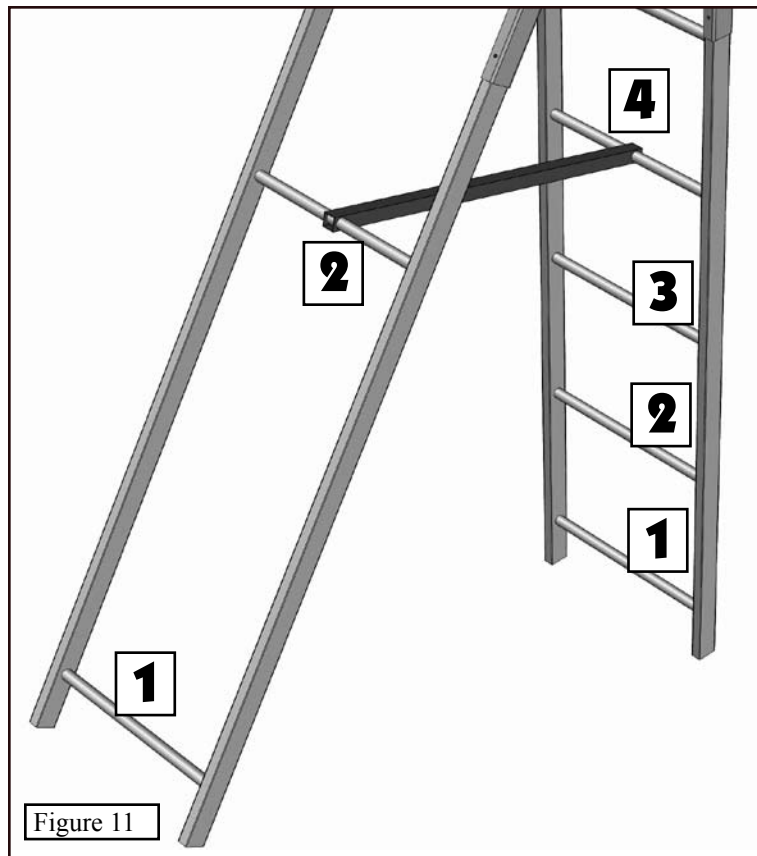

Figure 11
Step 1. The Support Brace connects the two sections together whenever it is standing. The brace runs from the 4th step from the bottom on the Step Assembly to the 2nd rung from the bottom on the Support Assembly as shown in **Figure 11**. This step is easier if it is done with the stand laying down.
Step 1. If you have transported the X-Pod with the support brace attached to one side, you **MUST** attach it to the other side before using it. Reconnect the brace as shown in **Figure 11**.